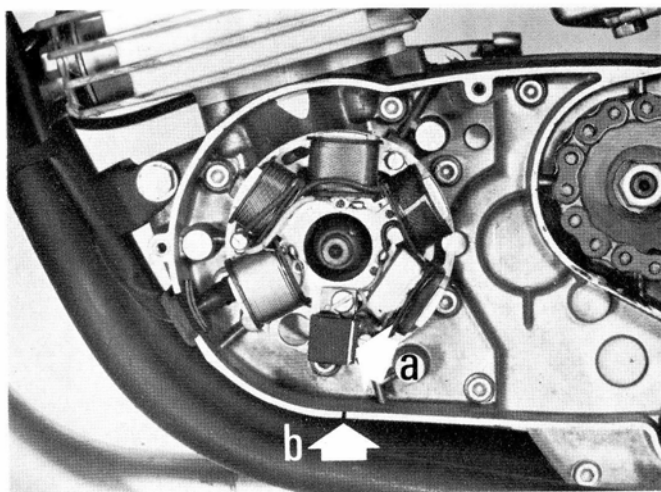

Fig. 57
**Engine timing** (fig. 57): check that the backplate is oriented so that the « a » engraved on the same matches with the mark « b » on crankcase; in such conditions the correct ignition timing is obtained.